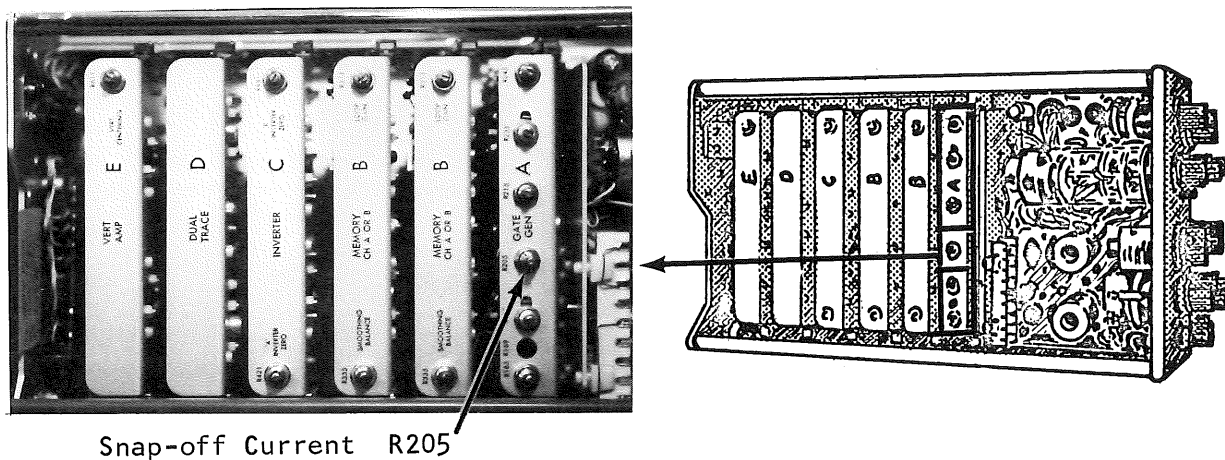

Figure 5-31
5. Adjust the Snap-off Current, R205 - See Figure 5-31, for 340 psec risetime as read on the CRT and on the 6R1A. Keep the display set up as outlined in Step 4.